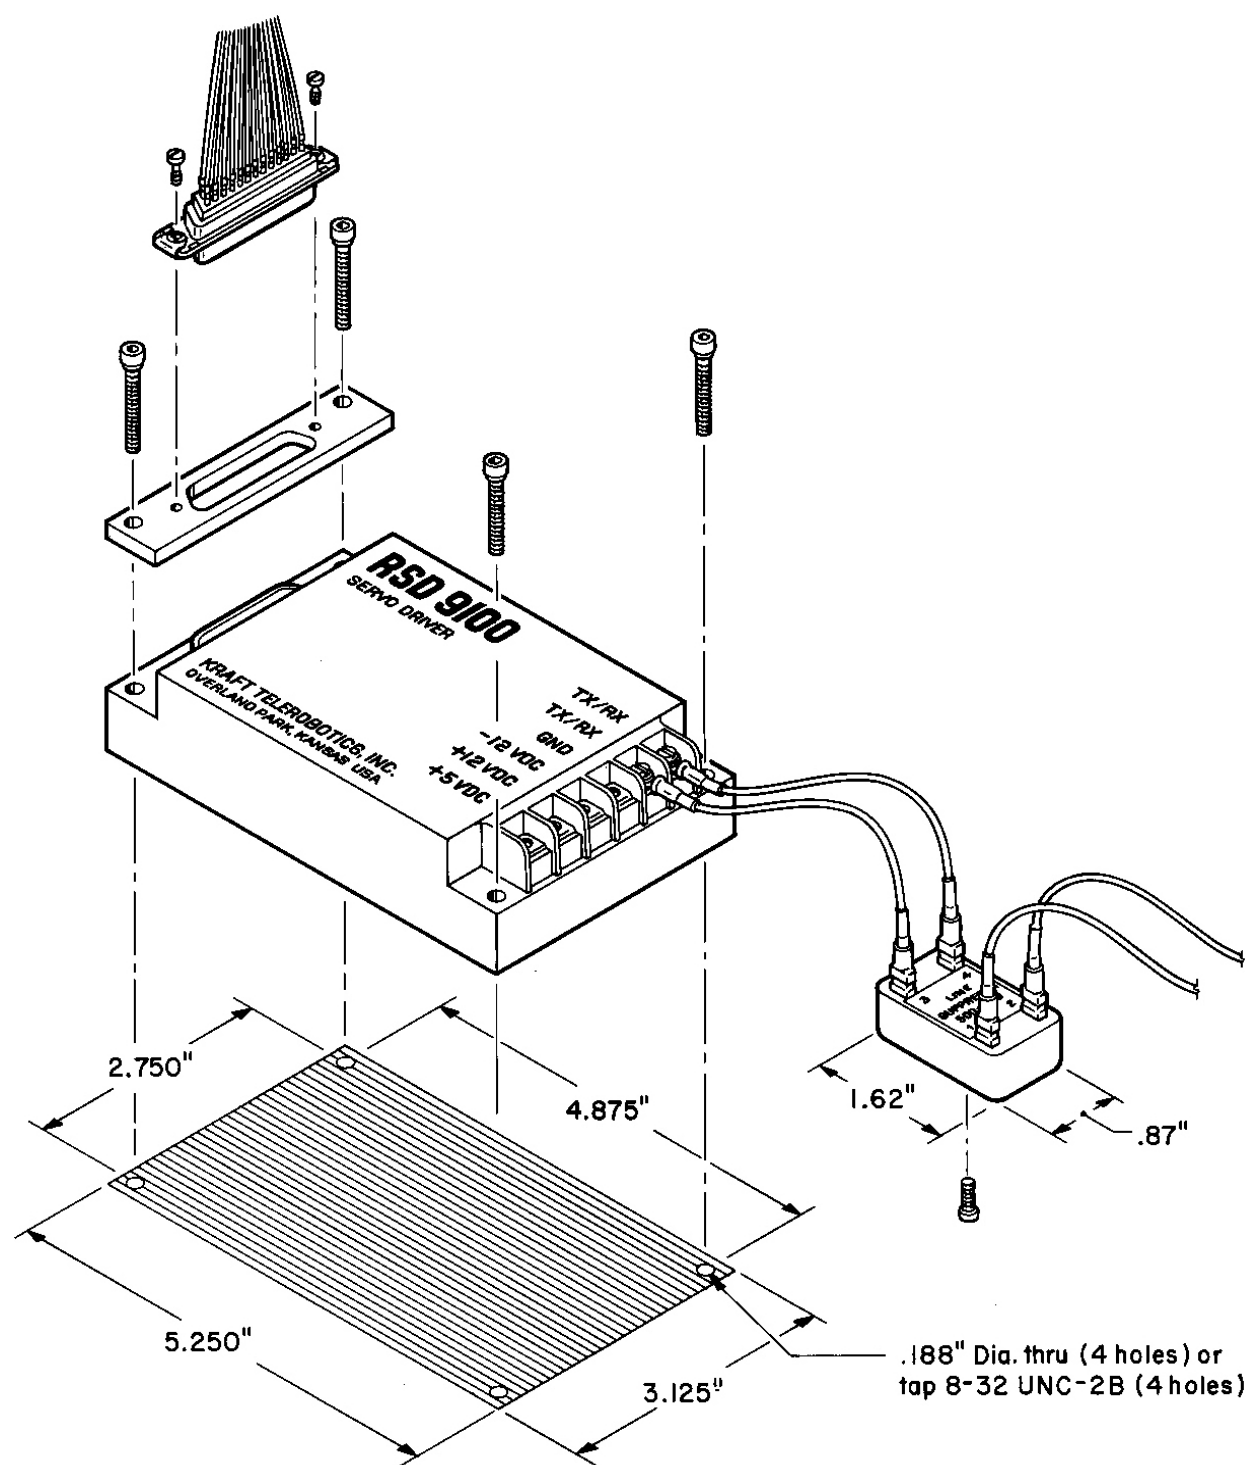

Figure 2-8 RSD Module Mounting
Because of its small size the RSD module can be mounted almost anywhere as long as it is protected from the environment. In subsea applications the RSD module must be installed in a 1 atmosphere bottle. The RSD module is secured using (4) 8-32 screws as shown in Figure 2-8. The connector mounting plate is held in place by two of the RSD module mounting screws and provides separate threaded mounting holes for securing the 25 pin Sub-D connector to the module.